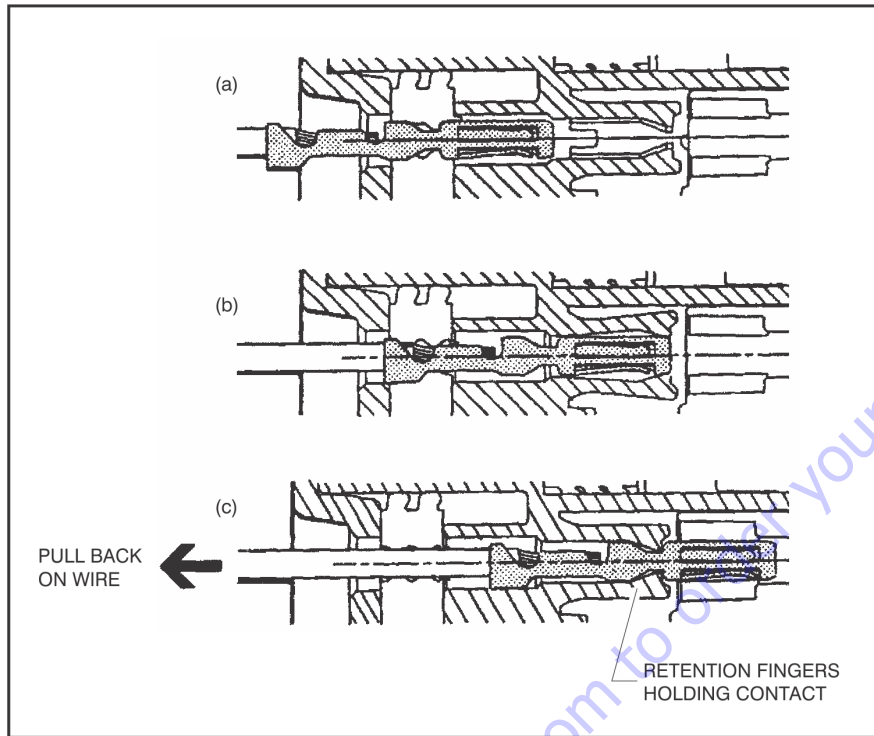

Figure 7-9. Connector Assembly Figure 2
2. Pull back on the contact wire with a force of 1 or 2 lb to be sure the retention fingers are holding the contact (See Figure 7-9.).
1. To insert a contact, push it straight into the appropriate circuit cavity as far as it will go (See Figure 7-9.).